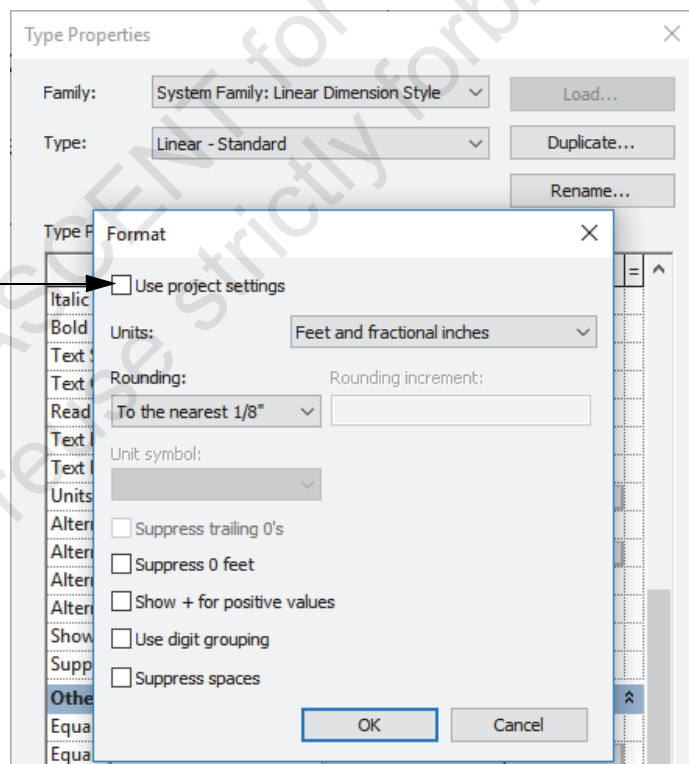

Figure 1–70
7. Click on *Units Format*. In the Format dialog box, clear the check mark for **Use project settings** and change the *Rounding* to the **nearest 1/8"**, as shown in Figure 1–70.